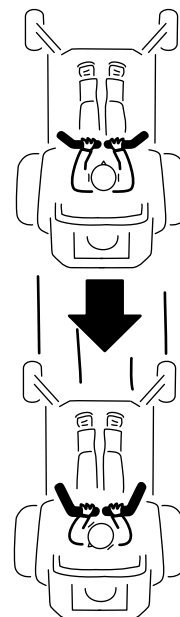

Figure 26
2. To go backward, slowly pull the motion-control levers rearward (Figure 26).